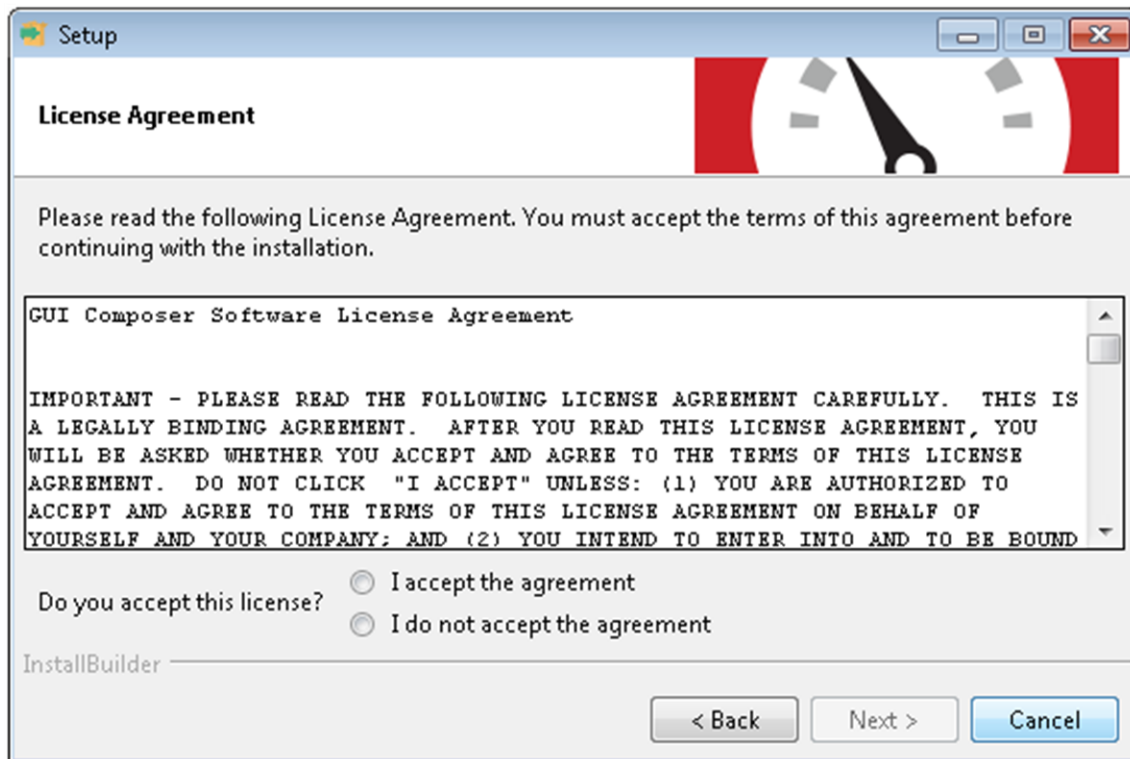

Figure 9. License Agreement
- Step 4. Select the *I accept the agreement* radio button and click the *Next* button to proceed (see Figure 9).